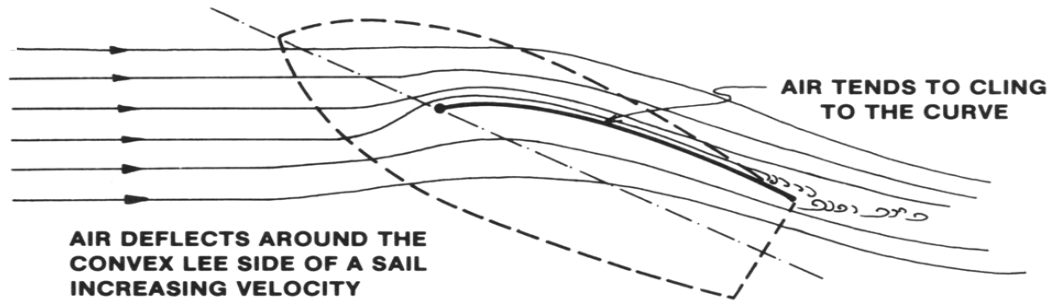

Figure 27 Upwash
- The airflow moving toward the windward side of the sail is drawn (bent) to the leeward side of the sail, resulting in an increase in air velocity over the leeward side of the sail (as illustrated in Figure 27).